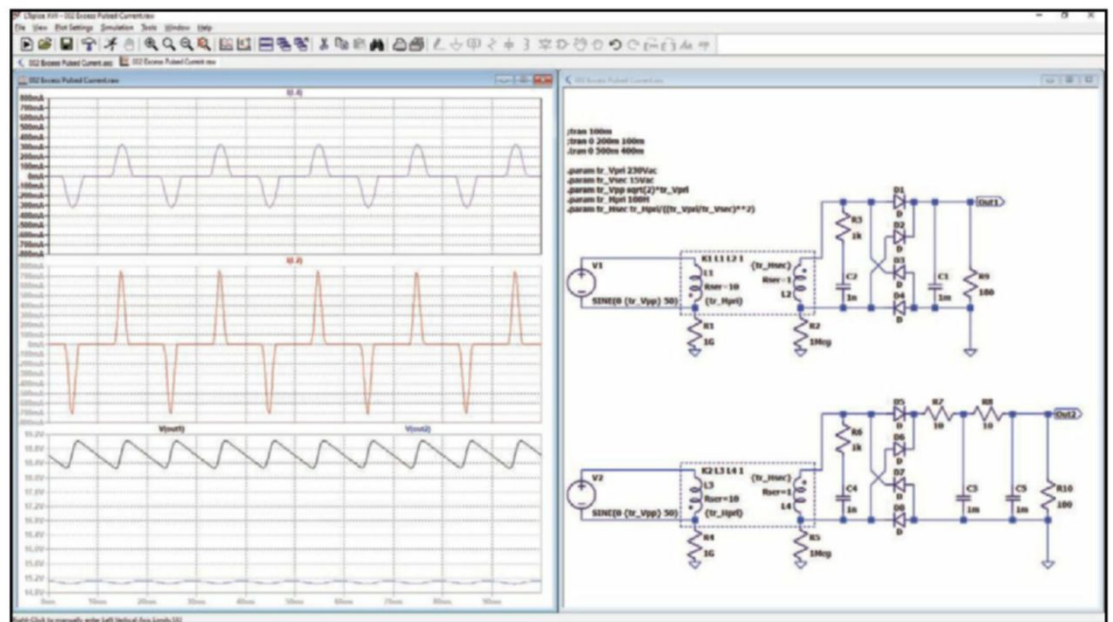
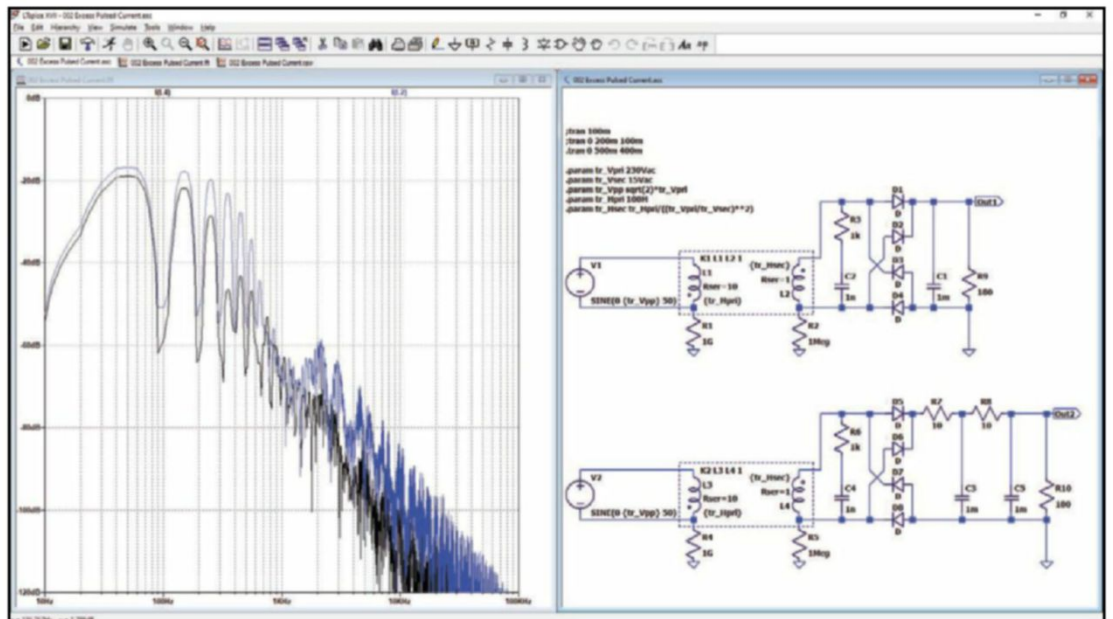

Figure 2a: The "Excess Pulsed Current" phenomenon can be seen by adding a second model to our simple circuit, spending two resistors and one more capacitor.
Figure 2b: This is the raw data in the form of a Fast Fourier Transform (FFT) plot.
- Output voltages of the original (Figure 2a) and the improved (Figure 2b) schematics
The right half of the Figure 2a schematic shows the previous simple schematic and the right half of
Figure 2b shows an "improved" version. As we can see, this second circuit looks very strong, unlike these old power sources that were used by our grandparents, when they built their tube-electronics. Maybe that was not such a bad idea at all, maybe we should spend that "extra" capacitor and resistor.
The left half of Figure 2b shows the raw data in the form of a Fast Fourier Transform (FFT) plot.